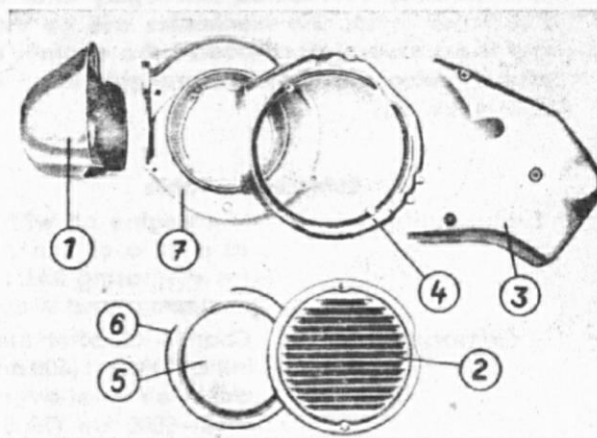

Fig. 2: Exploded view of engine cowling and blower housing
5. Removal of blower hood (Fig. 2/1):
6. Removal of blower louver cover (Fig. 2/2):
7. Removal of fairing plate (Fig. 2/3):
1. Remove blower housing (Fig. 2/4) by unscrewing four screws.
2. Remove the cover plate (Fig. 2/5). Detach wire ring (Fig. 2/6), turn and take off cover plate.
4. Unscrew the base plate (Figs. 2/7 and 3/1).